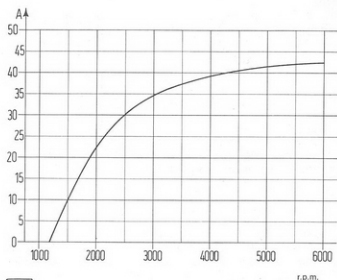
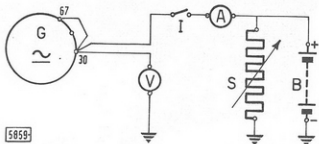

Fig. 241 - Minimum Output Curve after Warm-up at 14 Volts with Bedded-in Brushes
Fig. 242 - Output Test Wiring Diagram
- Output current at 14 Volts after warm-up (see diagram of Fig. 241) with the alternator on the test bench connected as shown in Fig. 242.